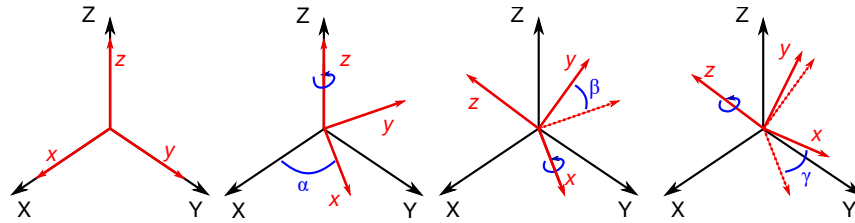

Figure 7-3. A rotation represented by Euler angles (α, β, γ) using $Z(\alpha)X(\beta)Z(\gamma)$ intrinsic rotations.
2. **Local coordinate systems.** It is possible to have the ICFD parts or ICFD_PART_VOLs rotate around the global reference frame but also to define and use a local reference frame by defining its point of origin and two of its vectors $\mathbf{v}_1 = (X1, Y1, Z1)$ and $\mathbf{v}_2 = (X2, Y2, Z2)$ (note that \mathbf{v}_1 and \mathbf{v}_2 should be orthogonal). The third vector is, then, in the direction of $\mathbf{v}_1 \times \mathbf{v}_2$. See Figure 7-3.